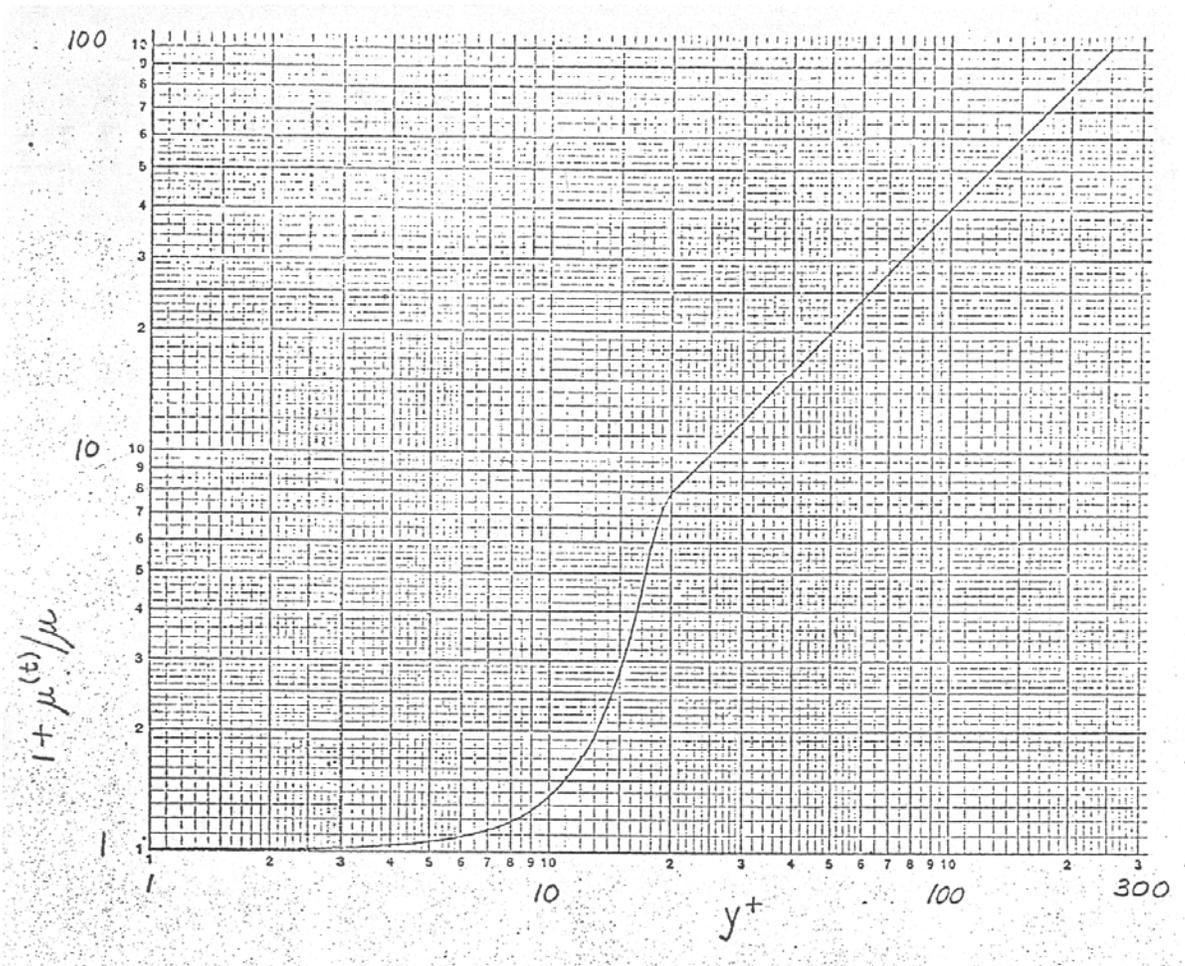

Figure 2. Representation of the eddy viscosity as a "universal" function of the distance from the wall.
- b) Assume that the total viscosity is given by Fig. 2 (below) and utilize the actual shear stress distribution
See Figures 2 and 3 below.
Figure 2. Velocity profiles for pipe flow for several values of the Reynolds number, calculated with the assumption that  $\frac{\mu^{(t)}}{\mu}$  is a universal function of  $y^+$ .